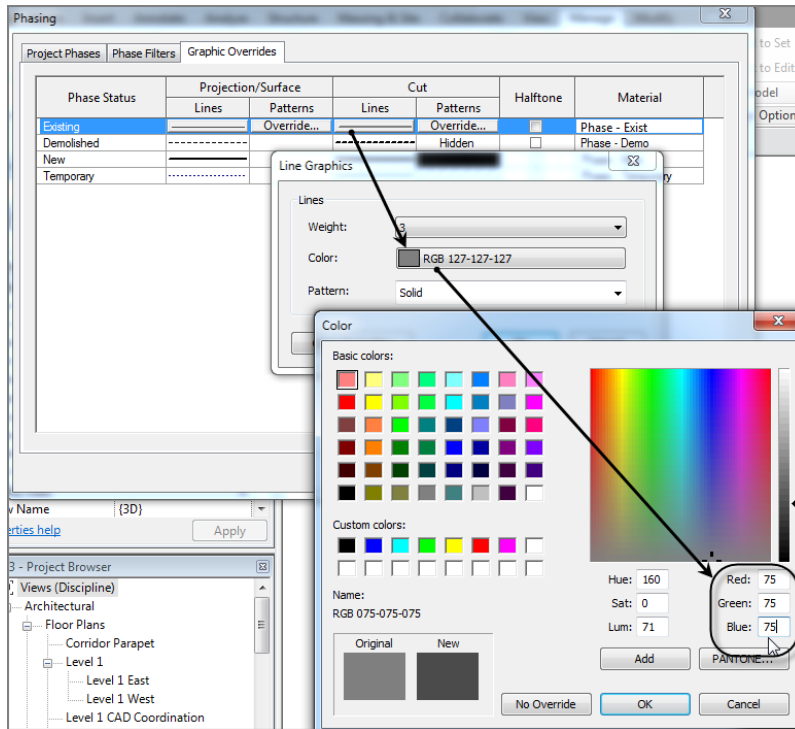

FIGURE 21.8: Making the existing shading darker
3. In the Existing row, for the Lines column under the Cut heading, click the button that displays a shaded line, as shown in Figure 21.8.
5. Change the shading of the line to **75, 75, 75** (see Figure 21.8). Click OK to exit all dialog boxes. The existing walls update in the views.